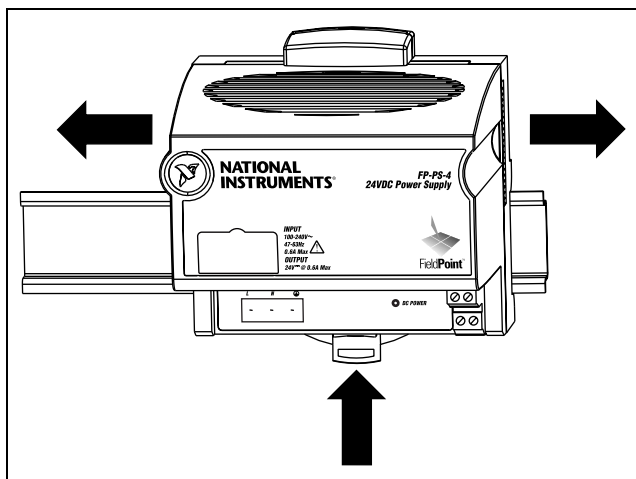

Figure 3. Positioning and Locking Your Module
- Slide the FP-PS-4 to the desired position along the DIN rail. For maximum cooling, leave a 25 mm (1.0 in.) space between the FP-PS-4 and other devices on your DIN rail. After it is in position, lock it to the DIN rail by pushing the rail clip to the locked position, as shown in Figure 3.